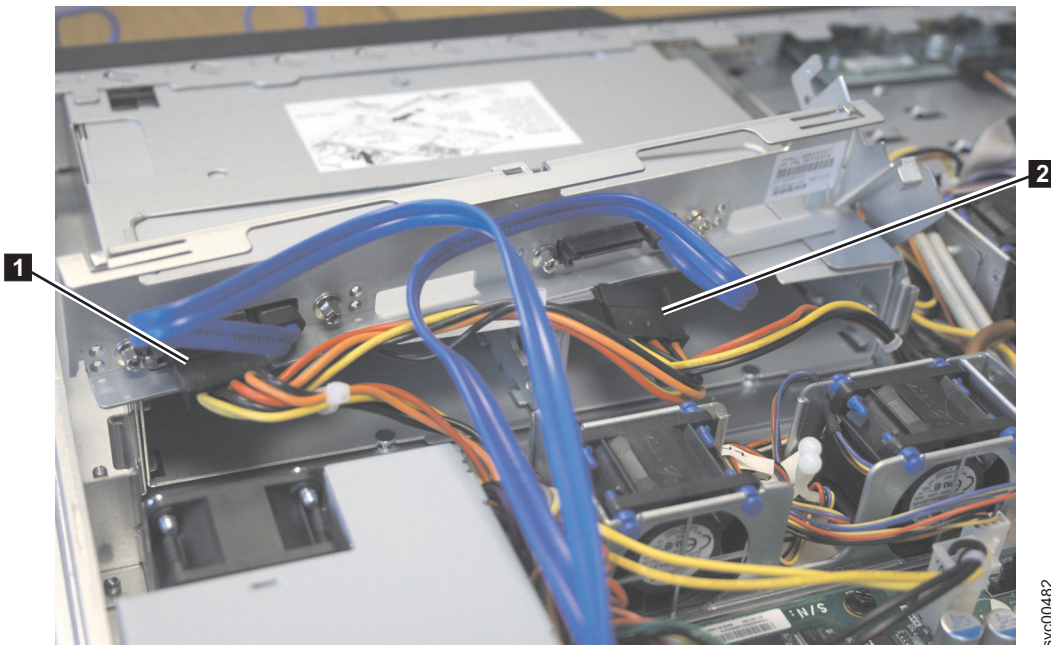

Figure 277. SAN Volume Controller 2145-8A4 power supply connectors
9. Remove power connectors P1 **1** and P6 **2**, as shown in Figure 277.